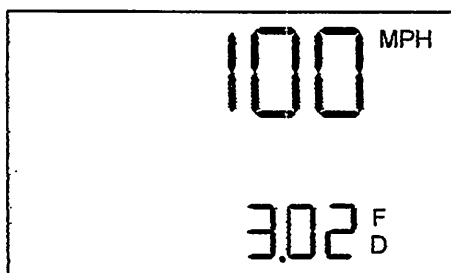

Figure 11. Model and Firmware Revision Number
3. Press the **SURVEY MODE** button. The display should look similar to Figure 11.